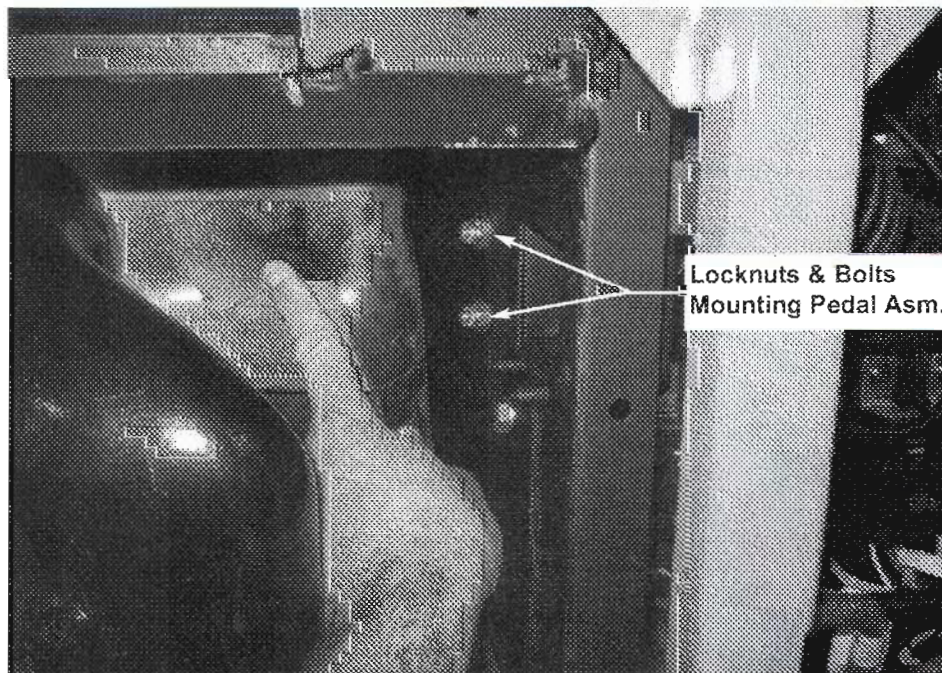

FIGURE 3
5. Pull back the upper, driver's side radiator shroud to access the mounting hardware for the accelerator pedal assembly. **Figure 3**